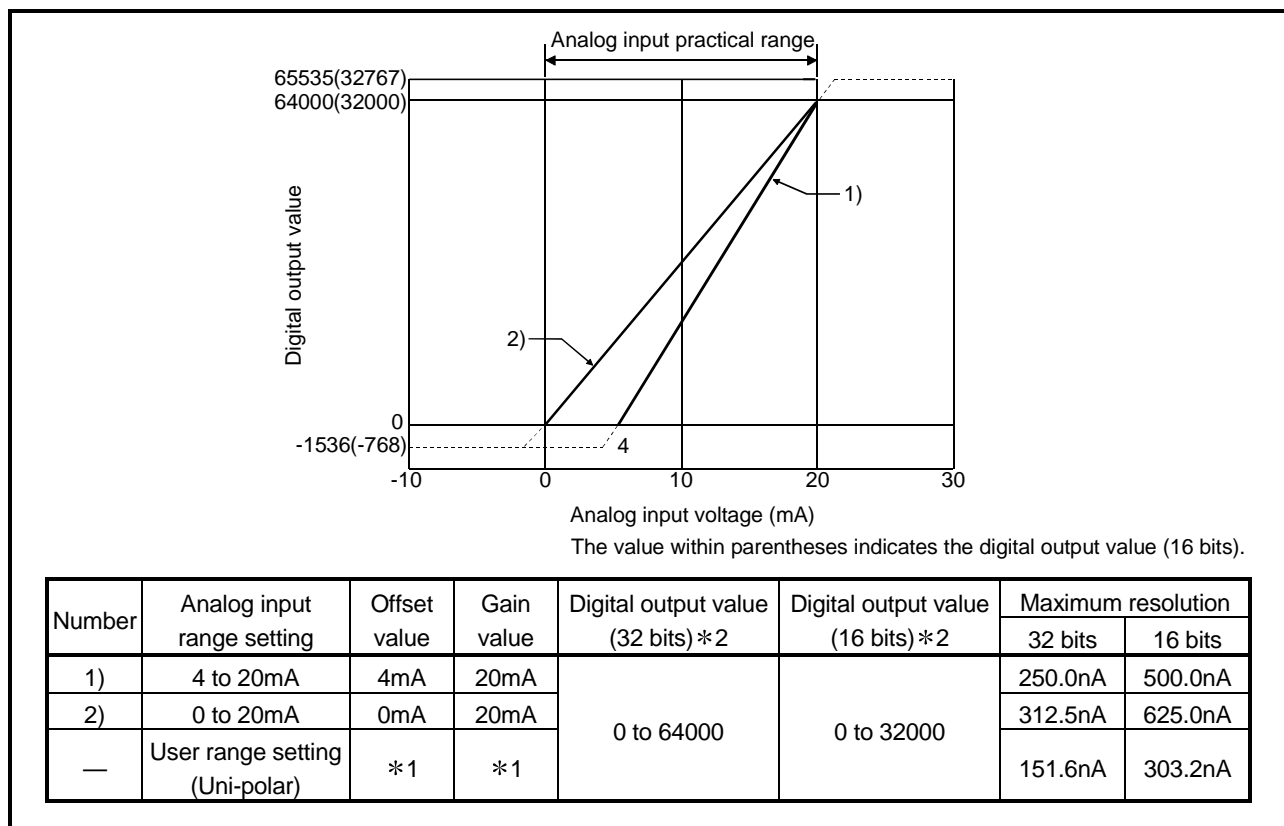

Fig. 3.2 Current input characteristic of Q64AD-GH
Fig. 3.2 shows a graph of the current input characteristic.
(1) Set within the analog input range and digital output range for each input range. If these ranges are exceeded, the maximum resolution and accuracy may not fall within the performance specifications. (Avoid use in the dotted area of Fig. 3.2.) (2) Do not input an analog input current of more than ± 30 mA. A breakdown may result due to overheating. (3) Set the offset/gain values for the user setting range *1 within a range in which the following conditions are satisfied. (a) Gain value ≤ 20 mA, offset value ≥ 0 mA (b) { (gain value) - (offset value) } > 9.70mA (4) When an analog value that exceeds the range of the digital output value *2 is entered, the digital output value will be fixed at the maximum or minimum value.